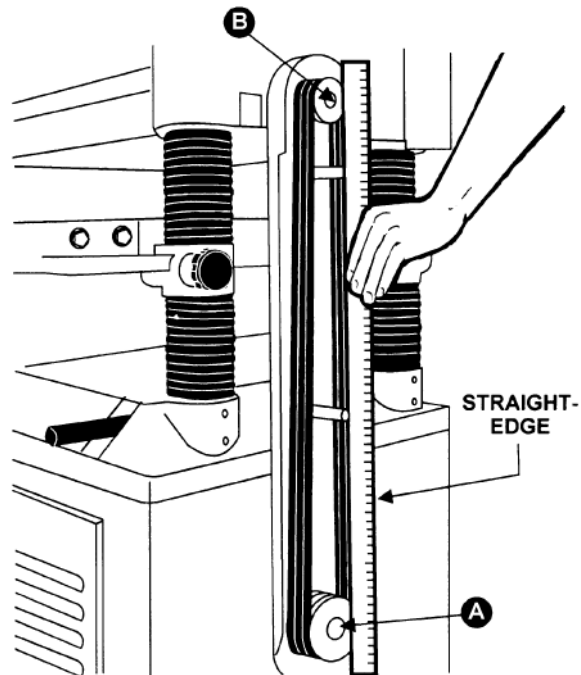
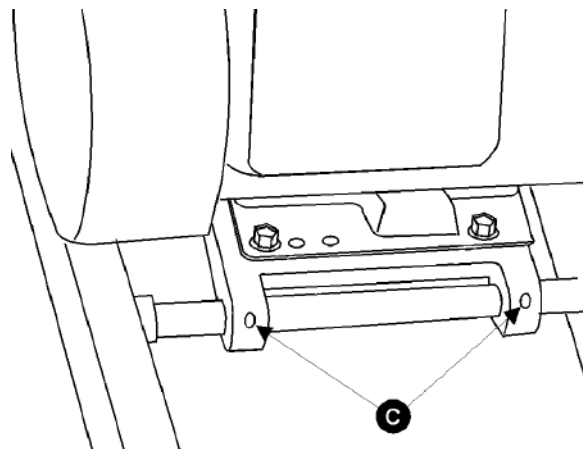

Figure 9
Figure 10
2. Using a straight edge, align the motor pulley (A, Figure 9) and cutterhead pulley (B, Figure 9). The motor plate can be moved for alignment by loosening the set screws (C, Figure 10) in the motor plate.